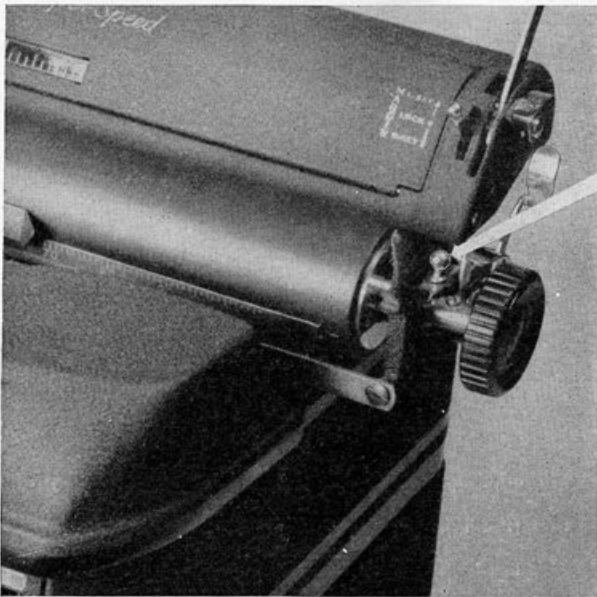

Figure 28.—Platen lock knob on L. C. Smith.
*L. C. Smith Standard.*—Models with serial numbers below 1,700,0002 have two slides with small round knobs at the right and left ends of the carriage directly above the platen shaft (see fig. 28). These slides hold the platen in place in the carriage. To